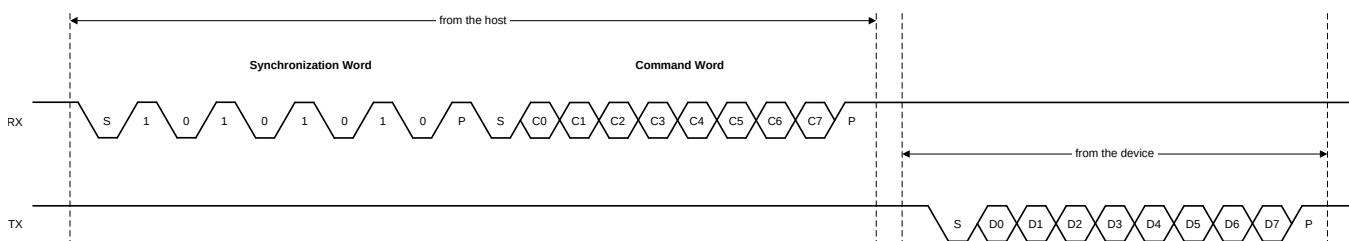

Figure 58. Example ADS112U04 UART Protocol
Figure 58 shows the timing sequence for the UART communication. In Figure 58, as an example, there is only one byte for the command and one byte for the readback data. There may be multiple bytes for a command or the data that is read from the device. The protocol takes the 8-N-1 format: eight (8) data bits, no (N) parity bit, and one (1) stop bit.